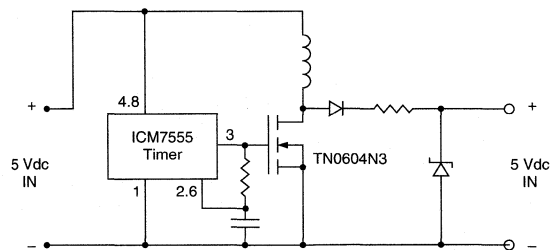

Figure 6: Charge Pump Converting 5VDC to 12VDC
- Figure 6 shows a simple charge pump converting $5V_{dc}$ to $12V_{dc}$. The key parameter for efficient functioning of this circuit is $R_{DS(ON)}$ at $V_{GS} = 5$ volts.